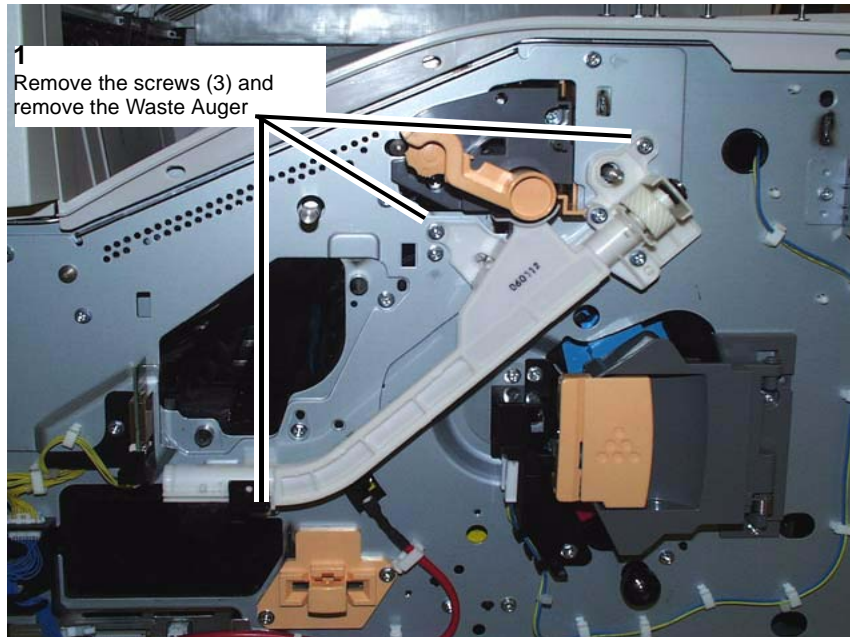

Figure 2 Removing the Waste Auger
3. Remove the Waste Auger. (Figure 2)